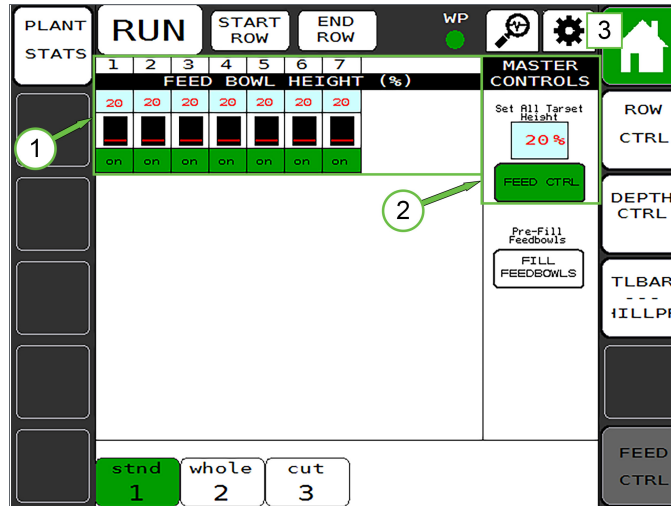

Figure 22
The Feed Control screen for bed belt planters displays the (1) *FEED BOWL HEIGHT* graph, and the *FEED CTRL* and *FILL FEEDBOWLS* keys under the (2) *MASTER CONTROLS* section. (see Figure 22)